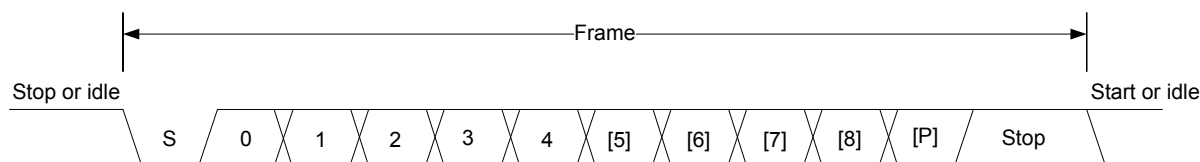

Figure 20.2. USART Asynchronous Frame Format
The frame format used in asynchronous mode consists of a set of data bits in addition to bits for synchronization and optionally a parity bit for error checking. A frame starts with one start-bit (S), where the line is driven low for one bit-period. This signals the start of a frame, and is used for synchronization. Following the start bit are 4 to 16 data bits and an optional parity bit. Finally, a number of stop-bits, where the line is driven high, end the frame. An example frame is shown in Figure 20.2 USART Asynchronous Frame Format on page 493.